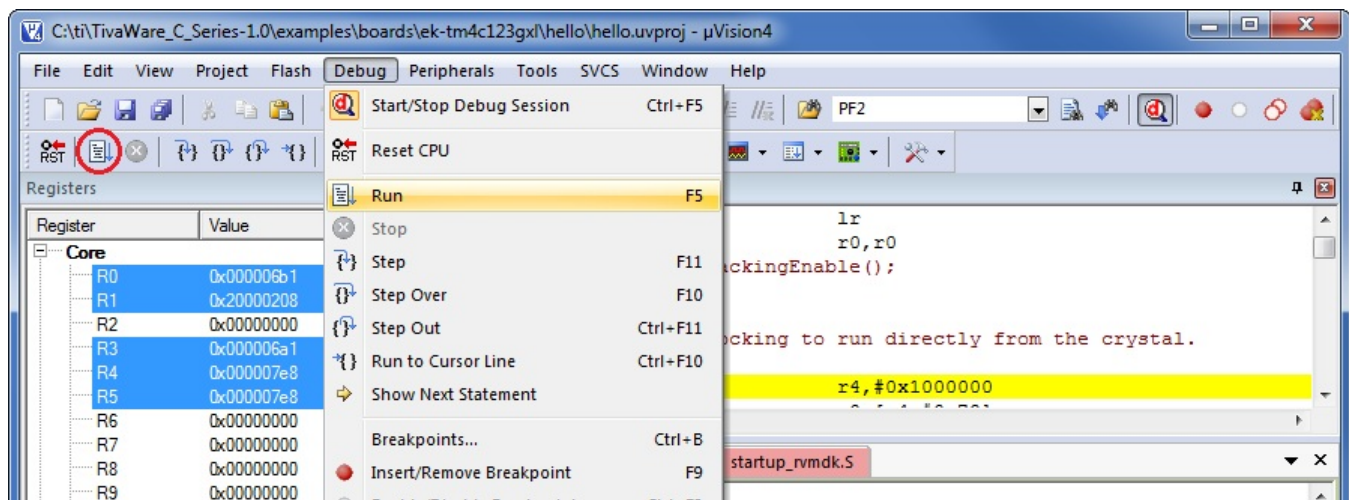

Figure 10.
- To run the program, select Run from the Debug menu, or click the Run button (icon) (see Figure 10).